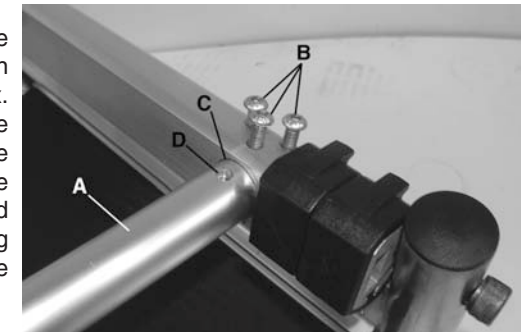

Figure 2
2. Assemble the handle (A) Fig.2 to the top of the knife assembly. First, loosen the three fixing screws (B) using a hex. key. Insert the handle shaft into the cylindrical hole (C), make sure the recessed hole (D) lines up with the center screw. Once properly aligned and inserted, tighten the center fixing screw using a hex. key. Then tighten the other two fixing screws.